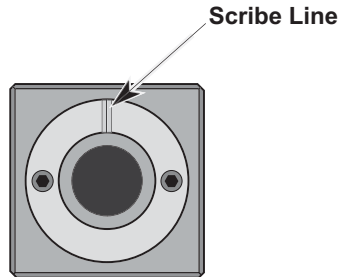

Figure 217 Agilent 10774A or Agilent 10775A Interferometer scribe line
- 6 Rotate the Interferometer’s bezel to bring the scribed line parallel to the Straightness Reflector’s aperture slot. See Figure 217. Turn the bezel until the dots overlap on the reflector side of the interferometer. Use a card to locate the return beam and make the appropriate angular adjustments to
- 6 Rotate the interferometer's bezel until the bezel's scribe line (see Figure 217) is oriented perpendicular to the aperture slot on the Straightness reflector. Two beams should now exit the interferometer in a plane perpendicular to the aperture slot on the reflector.
- 7 Position the reflector so that the two dots are located over the scribed center-line of the reflector housing and the face is square relative to the incoming beam. See Figure 217.